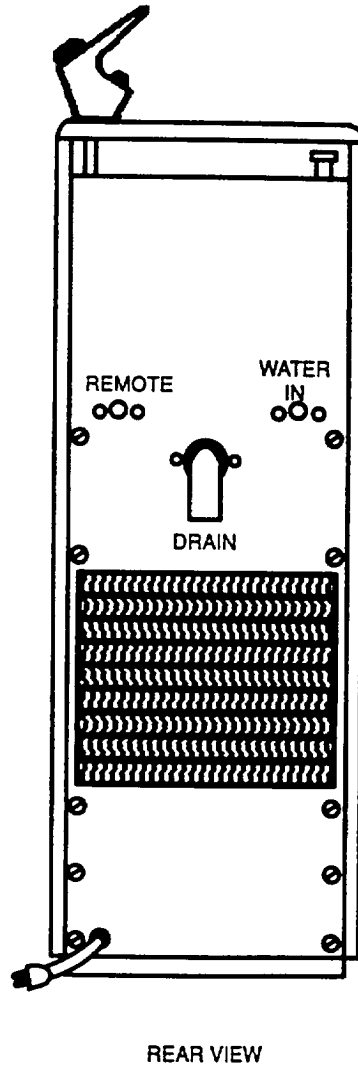

Figure 2-5. Drinking Fountain - Rear View
- (1) Close drinking water system valve DW5 (Barge 1) or DW5A (Barges 2 and 3), which supplies water to drinking fountain. Then remove remote plug (Figure 2-5) to drain water from fountain. Tape plug to fountain.
- (2) After cleaning refrigerator, secure door in open position to prevent mildew.
- (3) Check for damage, corrosion and pilferage at least monthly. Repair as necessary.